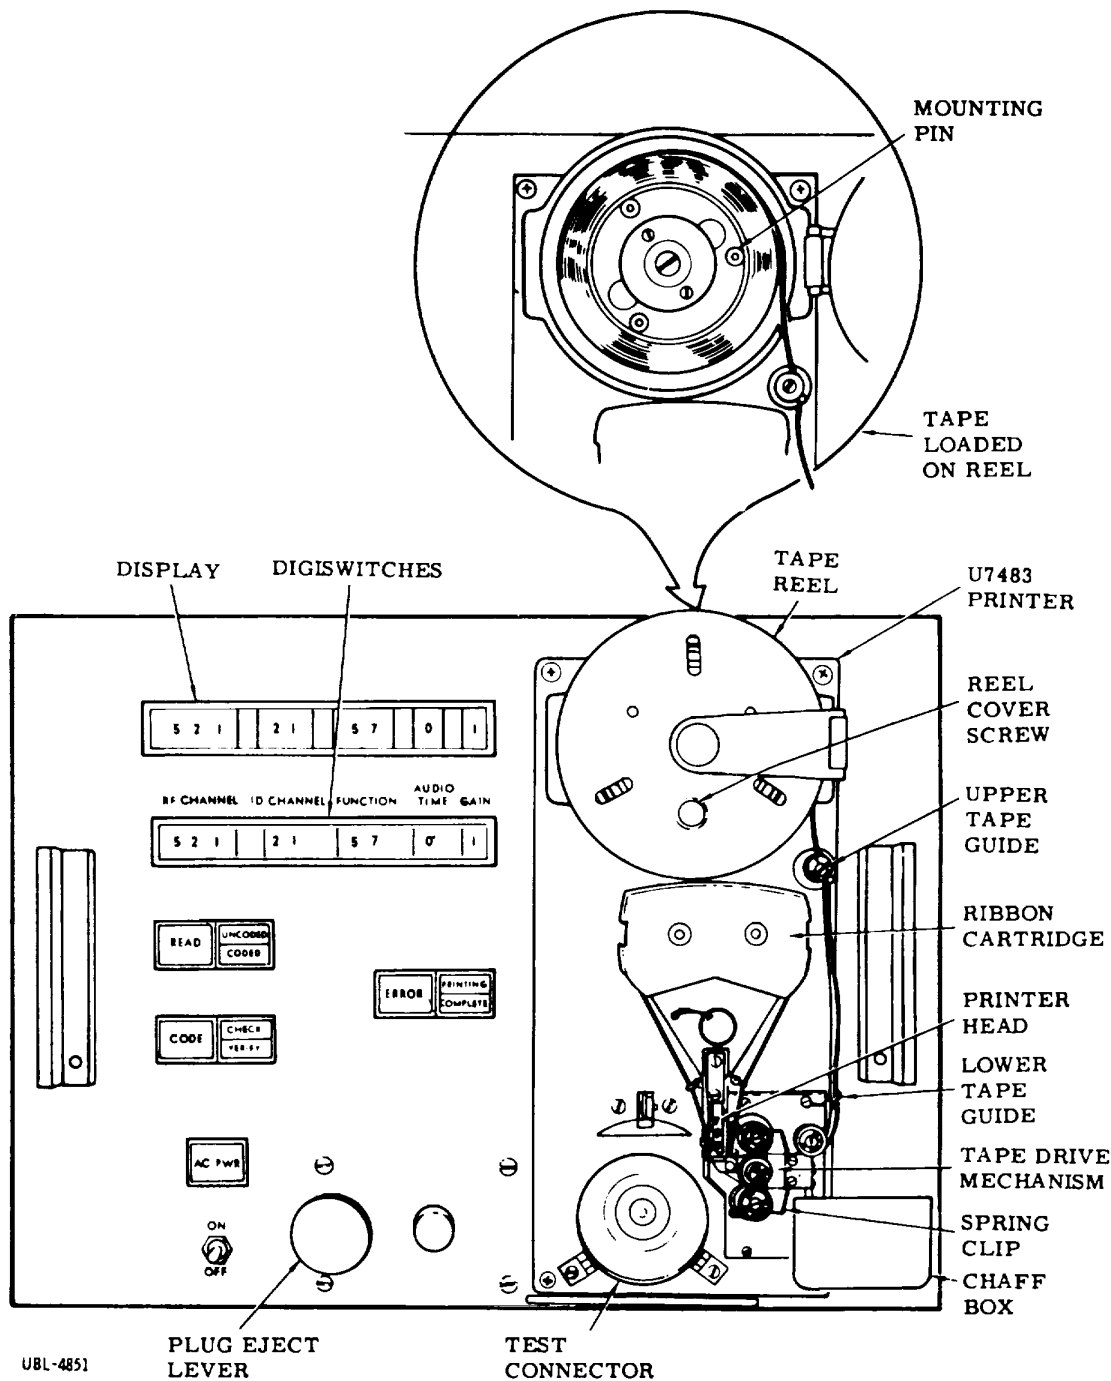

Figure 4-18. PT1561 Programmer Test Set with U7483 Printer Prepared for Operation
**4-83.** Loosen reel cover screw (figure 4-18) just far enough to disengage cover from reel and rotate hinged cover away) from reel.
**4-85.** Mount new tape roll over 3 mounting pins on reel so that end of tape unwinds from top of roll and passes down through slot in reel housing (figure 4-18). Pull end of tape down until approximately 1 foot of tape extends from slot in reel housing.
**4-86.** Thread tape between roller and pin of upper tape guide (figure 4-18) located just below slot in reel housing.
**4-90.** Remove chaff box from mounting screws on PT1561 Programmer Test Set panel in order to gain better access to tape drive mechanism (figure 4-18).
**4-94.** Feed tape through lower tape guide (figure 4-18).
**4-98.** Rotate spring clip back to pressure rollers and snap spring clip over shoulder of screw head on each pressure roller (figure 4-18).